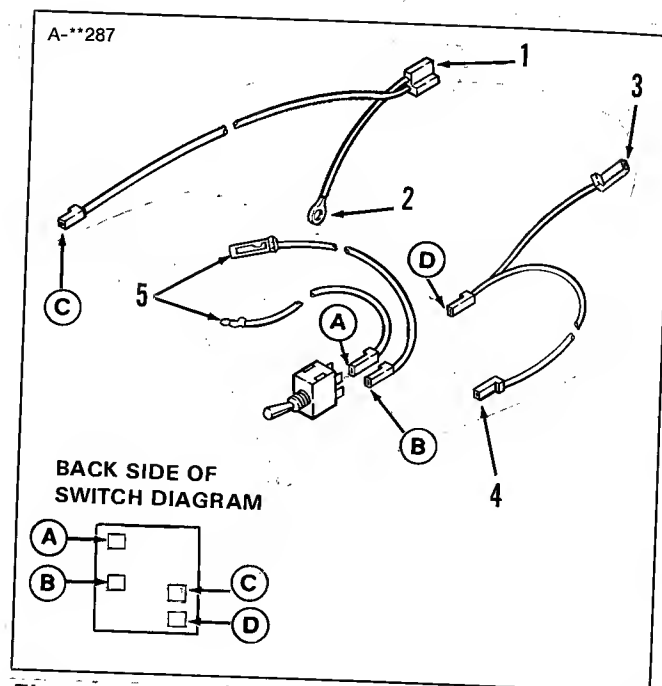

Figure 6.
- a. Attach the wires to the switch terminals as indicated by the letters A thru D in figure 6. To make sure switch is correctly positioned notice the terminal spacing on switch diagram in figure 6.
- c. Route the wire (4, figure 6) behind the steering post, over to the fuse box. If a wire is connected to bottom terminal, disconnect it and install 2-way connector. Connect both wires to connector. Remove the bottom fuse from fuse box. Install the 20 amp fuse supplied with kit in its place.
- d. Route the two wires (5, figure 6), following the tachometer cables, to the interlock switch in front of left-hand pedal.
- f. Route the longest wire (1, figure 6) to front of tractor, following the wiring harness. Connect the plug to the plug at the clutch.
- g. Connect the ground wire (2, figure 6) with same capscrew used to secure battery negative cable to frame, if wire was routed on left-side of tractor. If on right-hand side, connect ground wire to frame with a 1/4-20 capscrew, washer and nut (obtain locally).